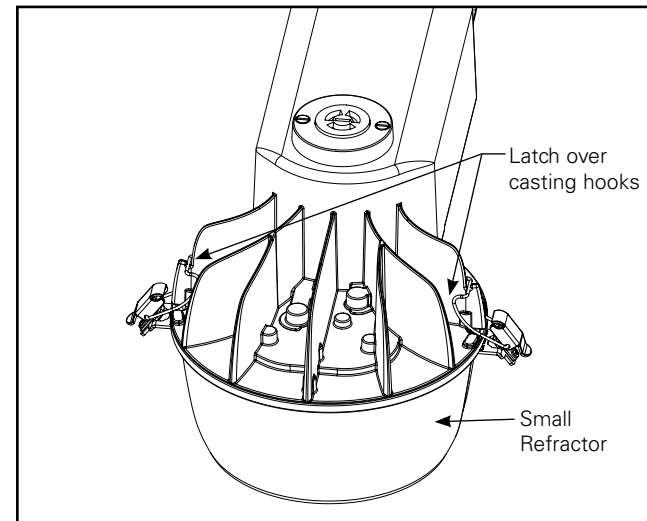

Figure 16.
1. Place latches over latch hooks in housing and snap latches down to secure refractor to housing. (Figure 16.)